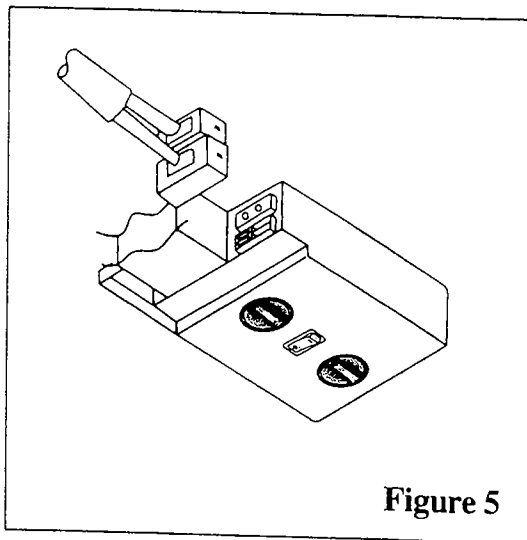

Figure 5
- 2** Take the roof top air conditioner electrical harness and plug it into the side of the selector switch control box. Make sure that the "ridged" side of the plug is aligned and matched with the "ridged" side of the selector switch control box connection. DO NOT USE EXCESSIVE FORCE (See Figure 5).